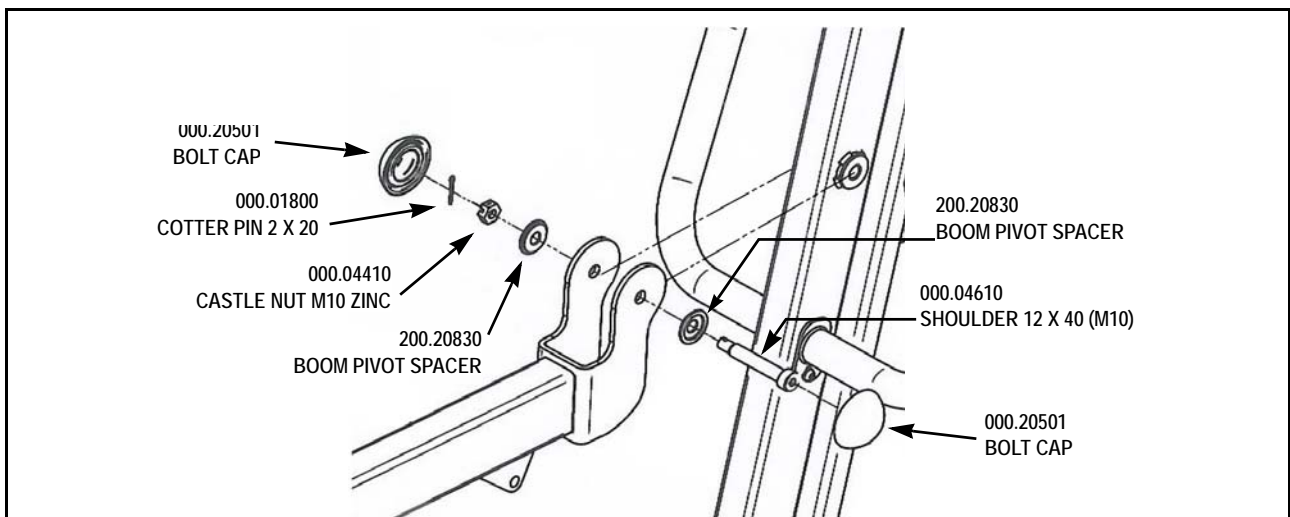

Fig. 32
- 4) Install the new boom in position at the top of the mast and secure it with the shoulder bolt fastening assembly. Tighten according to the corresponding torque level in Fig. 2 - do not overtighten. The anti-crush system will always be activated if too tight. Install the new cotter pin (see Fig. 32). Install the bolt caps.